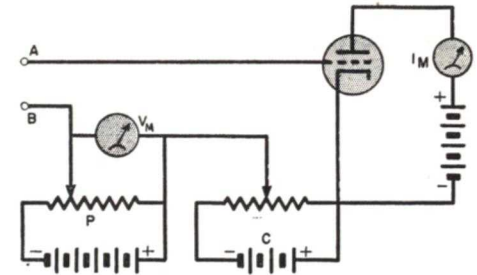

FIG. 24. A triode slide-back v.t.v.m.
v.t.v.m., as shown in Fig. 24. With terminals A and B shorted, the C bias is adjusted to give some particular value of the initial I_M . Then the maximum slide-back voltage is introduced by potentiometer P . With the unknown voltage now applied to terminals A and B , the potentiometer setting is reduced until the meter I_M returns to its original reading. The V_M reading is then equal to the peak voltage applied.